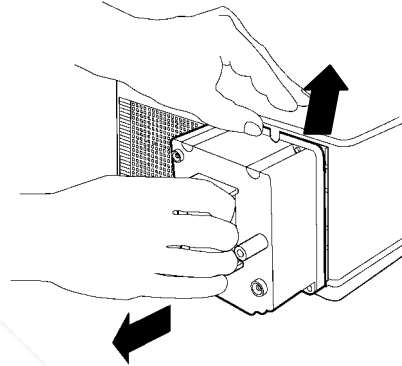

Figure 6-3. Slide Lamp Out to Remove
**Remove Lamp Module:** Grasp the lamp module with one hand and the projector body opening with the other hand (Figure 6-3). Apply upward pressure to the projector body as you slide the lamp out.